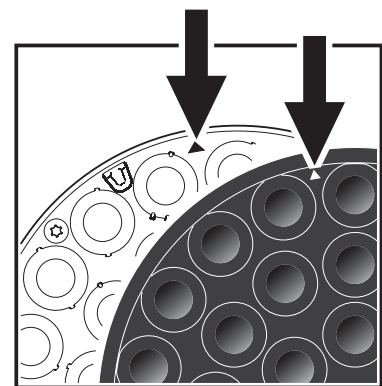

Figure 6: Alignment arrowheads
4. See Figure 6. Line up the two small arrowheads (arrowed) molded into the lens plate and spill ring and press the spill ring onto the lens plate so that the locating tabs in the lens plate engage in the cutouts in the spill ring.